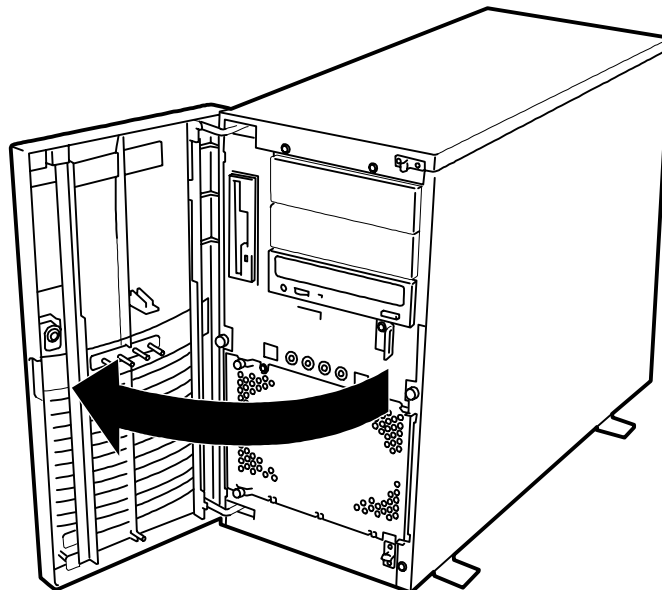

Figure 4-1. Opening the Front Door
3. Grasp the indentation located on the right edge of the front door and pull the door towards you to open it (Figure 4-1).